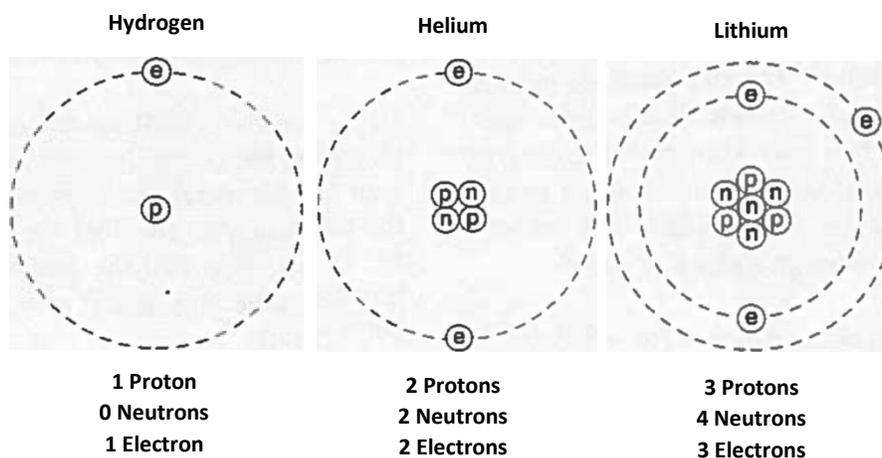

Figure 1.2: Atomic Structures
- 1-25 The protons, neutrons, and electrons in every element are identical. But the *numbers* of protons, neutrons, and electrons differ, as shown in Figure 1.2 below. These differences make one element different from another.